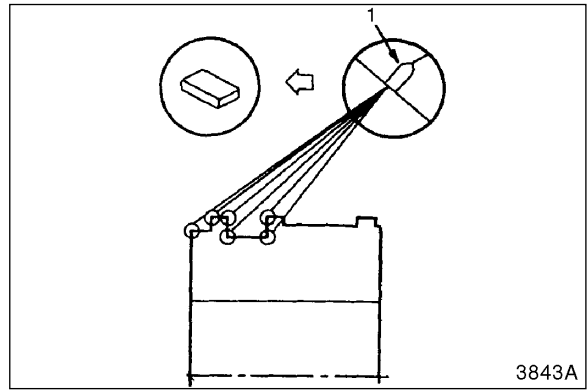

Figure 24
10. On piston, check corners of grooves that piston rings will be mounted in. See Figure 24. If any burrs, roughness, or sharp edges (1) are present, use an oil stone to smooth roughened areas and dull sharp edges.